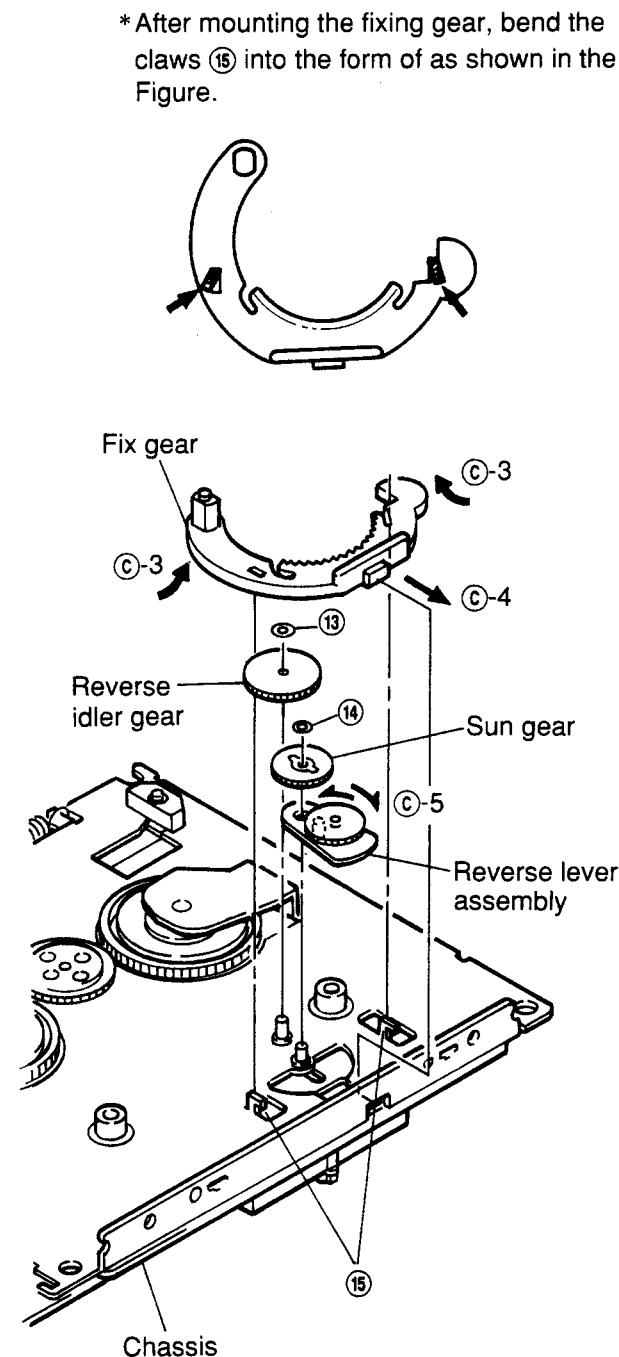

Figure 13
- (1) Remove M1.2 lock washer ⑮, pull it up from the stud of the chassis and remove the gear as shown in Figure 13.
- (2) Remount following the removal steps in the reverse order.
- (1) Remove M1.2 lock washer ⑭, pull it up from the stud of the chassis and remove the gear as shown in Figure 13.
- (2) Mount it, following the removal steps in the reverse order.
- (1) Adjust the two mounting claws for the fix gear on the chassis ⑮ and remove the section ㉔-3 of the gear by pulling it up in the direction of the arrow shown in Figure 13.
- (2) Insert the section ㉔-4 of the new gear into the chassis, and mount it following the removal steps in the reverse order as shown in Figure 13.
- (1) Remove both the fixing gear and the sun gear and remove the reverse lever assembly as shown in Figure 13.